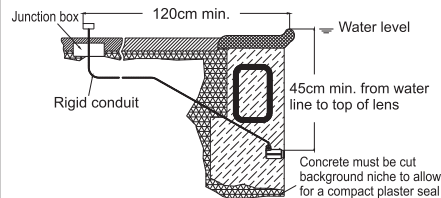

Figure1
3. Make sure the voltage is 12V and the terminal box is at least 120cm from the poolside (Figure1)
4. Upon installation, top of the light must be at least 45cm from water surface (Figure 1).